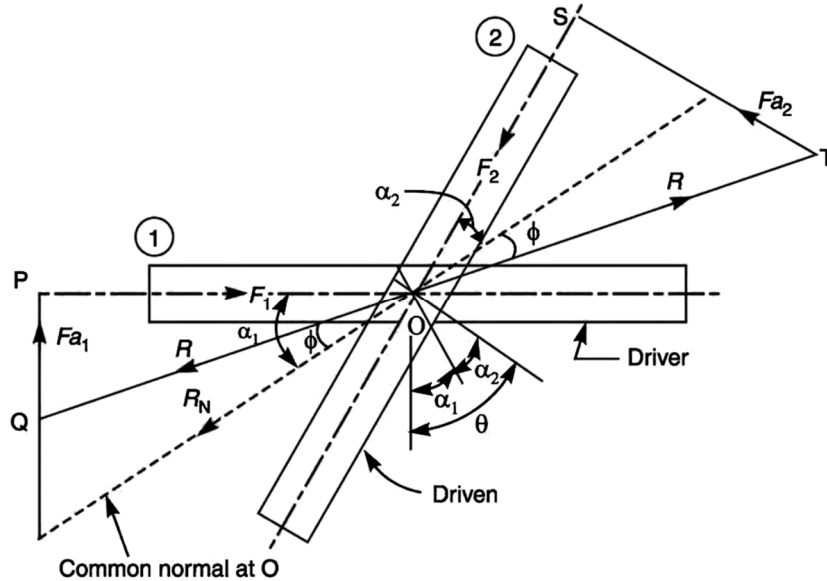

Fig. Q3 (c)
- c) A pair of spiral gears 1 and 2 in mesh is shown in **Fig. Q3 (c)** below.
Let the gear 1 be the driver and the gear 2 the driven. The forces acting on each of a pair of teeth in contact are shown in **Fig. Q3 (c)**. The forces are assumed to act at the centre of the width of each teeth and in the plane tangential to the pitch cylinders. Letting F_1 = Force applied tangentially on the driver, F_2 = Resisting force acting tangentially on the driven, F_{a1} = Axial or end thrust on the driver, F_{a2} = Axial or end thrust on the driven, R_N = Normal reaction at the point of contact, ϕ = Angle of friction, R = Resultant reaction at the point of contact, θ = Shaft angle = $\alpha_1 + \alpha_2$ and η_{max} is the maximum efficiency. Show that;